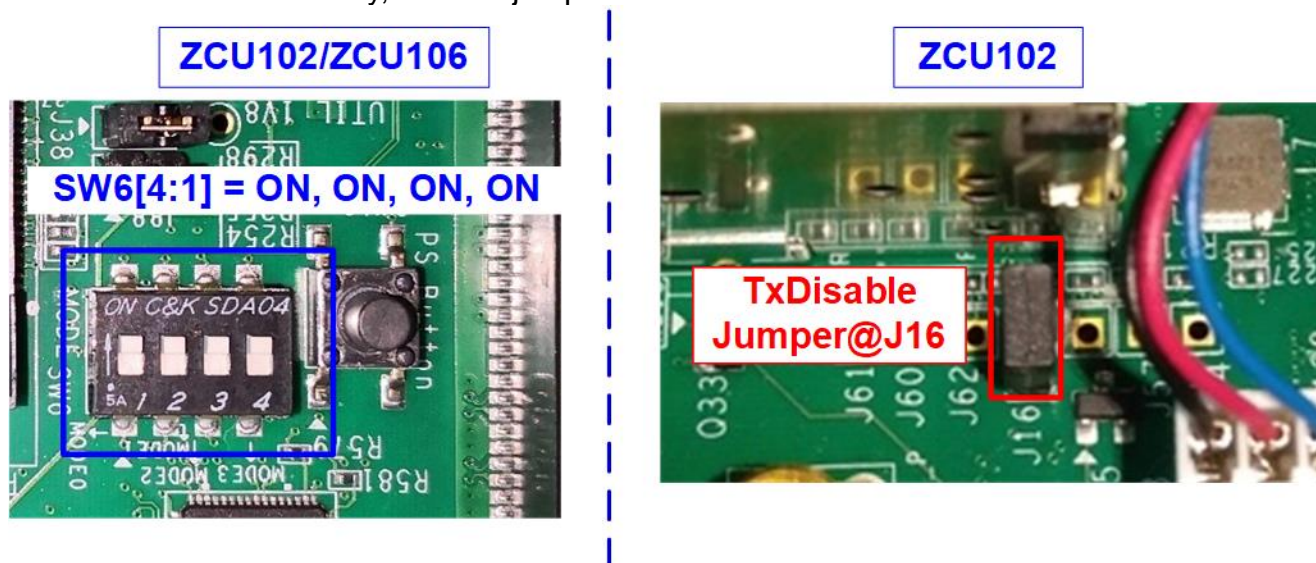

Figure 2-1 ZCU102/ZCU106 board setting
- a) ZCU102/ZCU106 Boards (Figure 2-1):